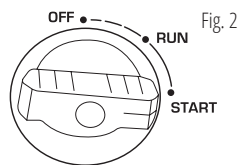

Fig. 2
4. Set the multifunctional switch to a position in between "START" and "RUN" (fig. 2). Please note! The engine switch position depends on the ambient temperature and the composition of the gas mixture.
8. To start KS 2100iG S, KS 3100iG S models, turn the Multifunctional engine switch to the "START" position (fig. 2). Pull the handle of manual starter until a slight resistance is felt, then pull it relatively sharply. Slowly return the handle manual starter by hand, do not release it abruptly. Turn the Multifunctional engine switch to the "RUN" position (fig. 2).
3. Turn the Multifunctional engineswitch to the "START" position (fig. 2).